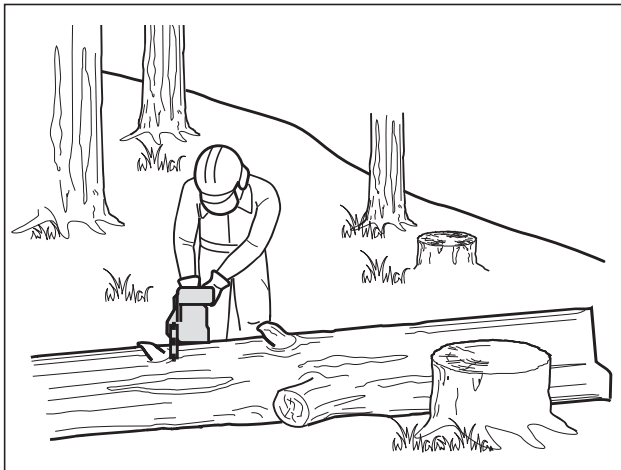

Fig. 28
- When bucking on a slope always stand on the uphill side of the log. When “cutting through”, to maintain complete control release the cutting pressure near the end of the cut without relaxing your grip on the product handles. Do not let the chain contact the ground. After completing the cut, wait for the saw chain to stop before you move the product. Always stop the engine before moving from tree to tree(Fig.28).